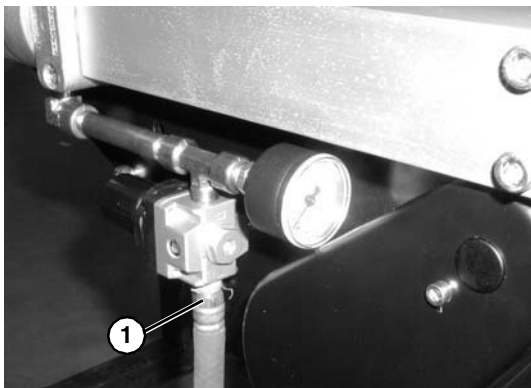

Figure 61
1. Remove air supply and remove hose (**Figure 61, item 1**) from center drive.